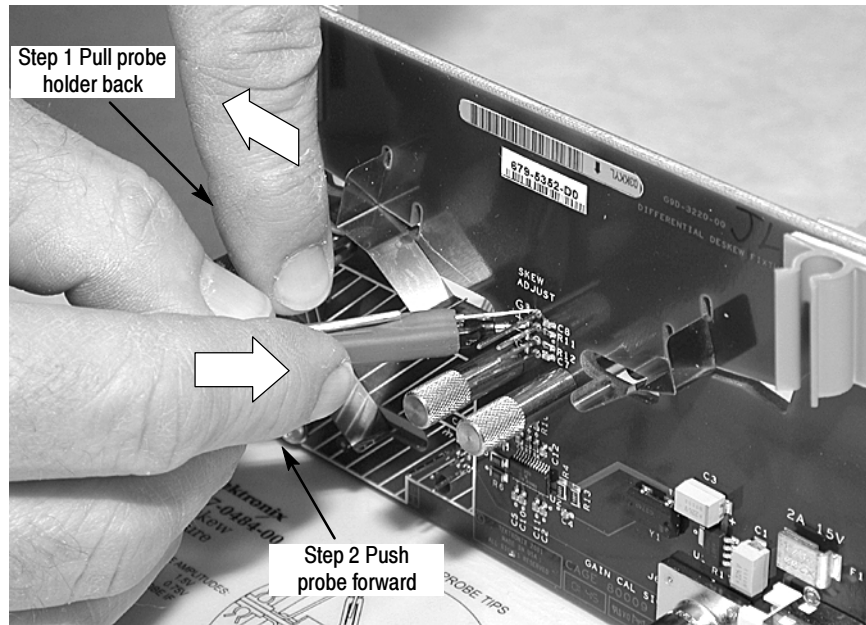

Figure 9: Probe tip contact loading
6. Perform the following procedure to provide probe tip contact pressure with the SKEW ADJUST solder pads: See Figure 9 on page 10.
6. Perform the following procedure to provide probe tip contact pressure with the GAIN CAL solder pads: See Figure 9 on page 10.